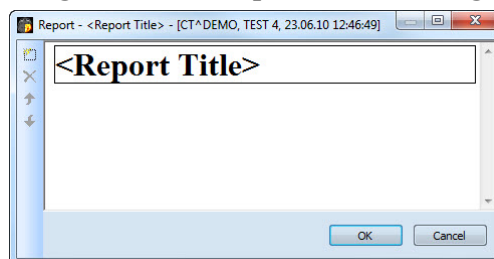

Figure 328 – Report dialog
To create a new template, push the **New** button and enter the name of the report. The **Report** dialog (see Figure 328) is then displayed for writing the new template.
- Text report - after clicking the  text type report icon, you can write a text report in the **Report** dialog that is displayed (see Figure 328).